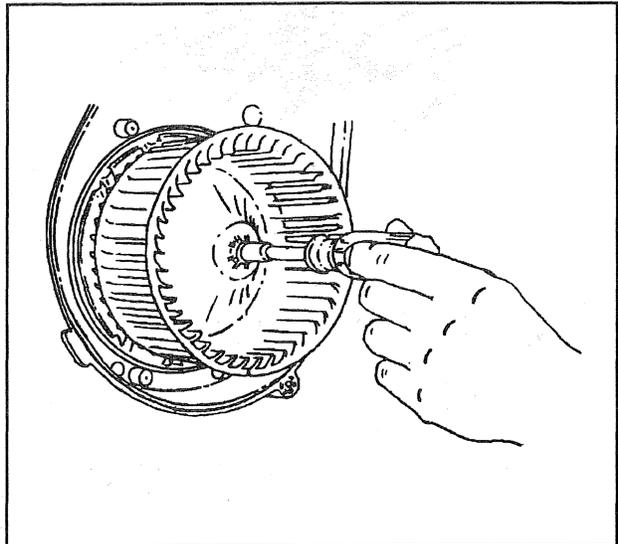

Figure 57—Removing Blower Fan Cage
4. Screws (29).
6. Blower motor (28).
7. Fan cage from the motor (figure 57)
1. Fan cage to the motor (figure 57).
2. Blower motor (28) to the heater case.